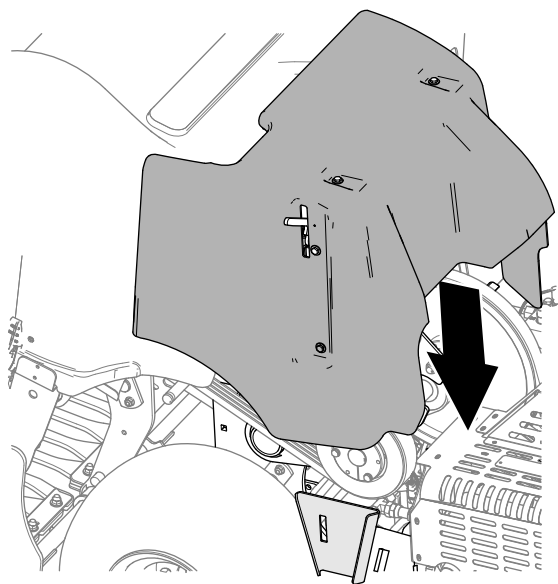

Figure 145
2. Lower the belt cover (Figure 145).